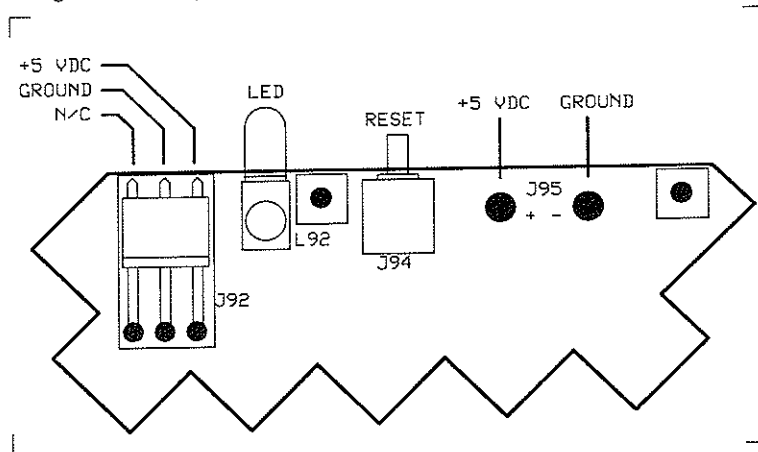

Figure 2-9 POWER SUPPLY CONNECTIONS
5. Connect the power supply to J92 or J95, double checking the polarity, and then turn it on. On J92, the +5VDC connects to the pin closest to the LED, ground connects to the center pin and the third pin is left unconnected. Refer to Figure 2-9.